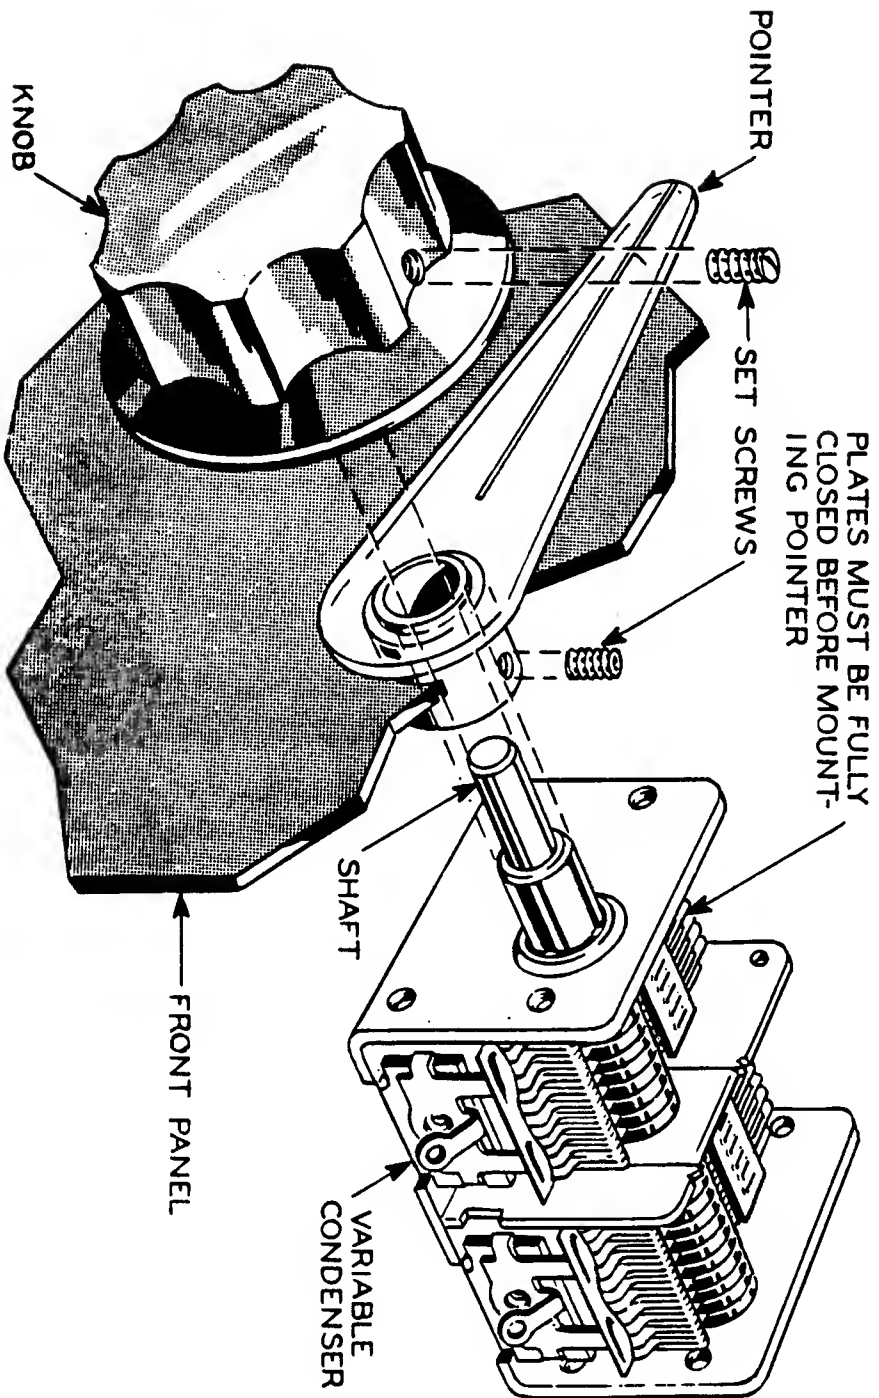

FIGURE 18. HOW TO ASSEMBLE THE DIAL POINTER AND KNOB
- () Close the plates of the tuning condenser, C-3, entirely. Place the dial pointer on the shaft of the tuning condenser. Line up the black line on the pointer with the horizontal line along the bottom of the scales on the left side. Tighten the set screw against the shaft of C-3. Push the large knob on the shaft and tighten the set screw. See Figure 18.